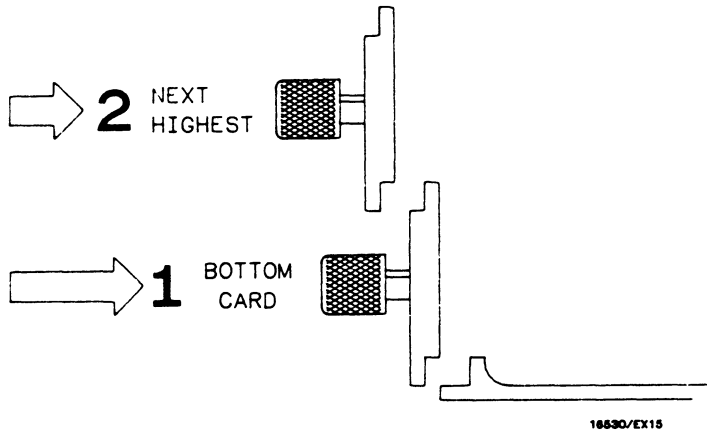

Figure A-3. Endplate Overlap
- Repeat step 6 for all cards and filler panels in a **bottom to top** order. See figure A-3.